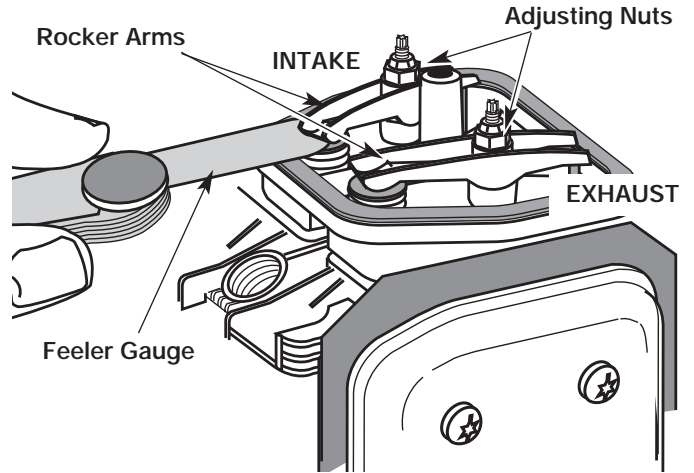
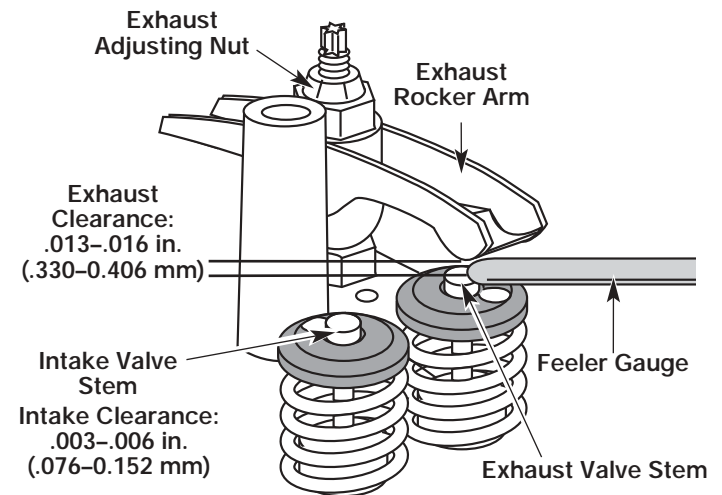

Fig. 66
Fig. 67
- Slide the feeler gauge between the rocker arm and the valve return spring. Measure the clearance between the valve stem and rocker arm (Fig. 66). Measure both the intake and exhaust valves.
Use a standard automotive feeler gauge at .005 and .015 in. (0.127 and 0.381 mm). The feeler gauge should slide between the rocker arm and valve stem with a slight amount of resistance, without binding. Figure 66 shows how to measure the intake clearance, while Figure 67 shows the exhaust clearance.
- Turn the adjusting nut using a 5/16 inch (8 mm) wrench or nut driver (Fig. 67).